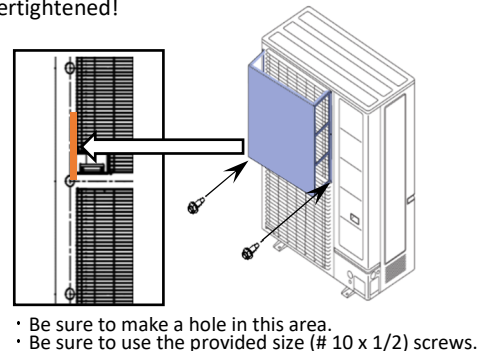

Figure 3
- (3) Using the self-tapping screw provided, secure the wind baffle as shown in Figure 3. Note that carefully drill the holes by self-tapping screw so that no damage is caused to internal parts of the unit as shown in Figure 3.